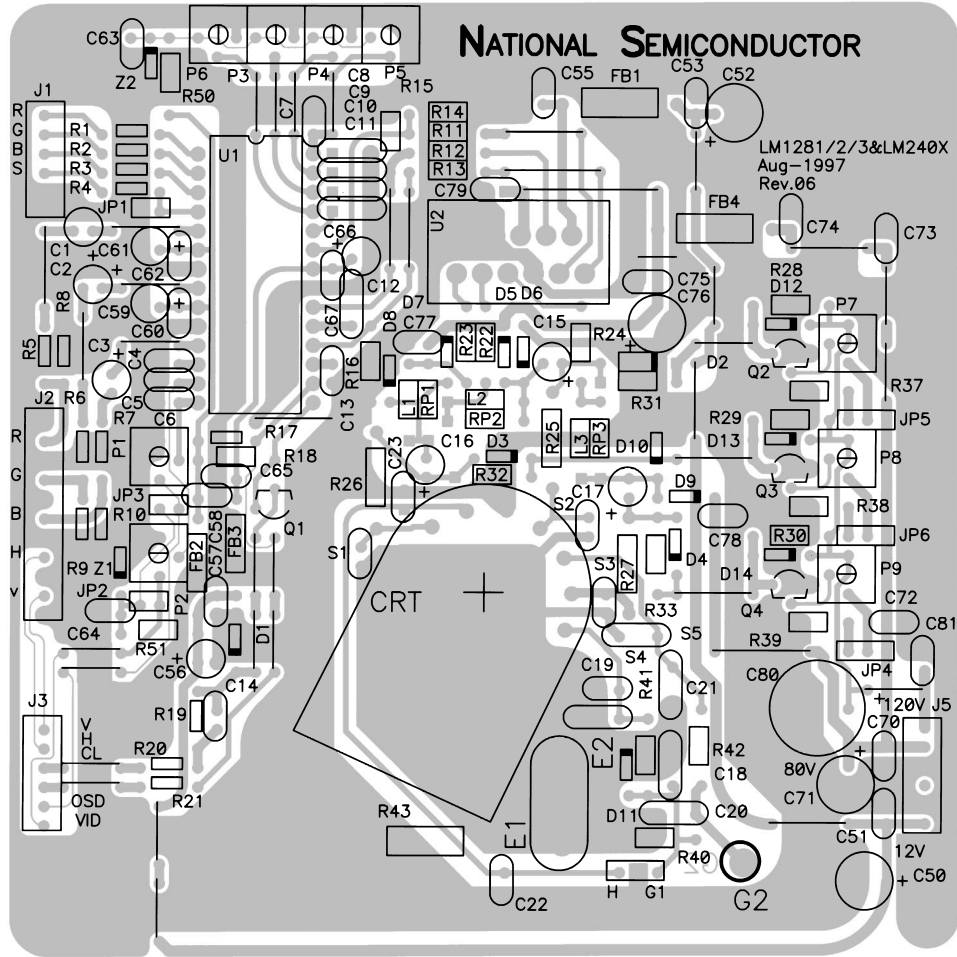

FIGURE 11. PCB Top Layer
Figure 11 and Figure 12 show routing and component placement on the NSC LM1283/2413 demonstration board. The schematic of the board is shown in Figure 10. This board
- **C75 and C77** — V_{CC} bypass capacitors, near LM2413 and V_{CC} clamp diodes. Very important for arc protection. (Figure 11)